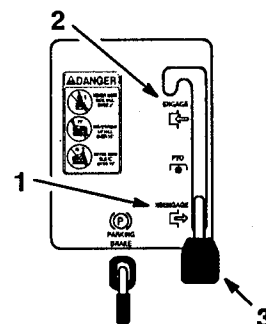

Figure 8
4. Move the blade control (PTO) to “DISENGAGED” (Fig. 8).